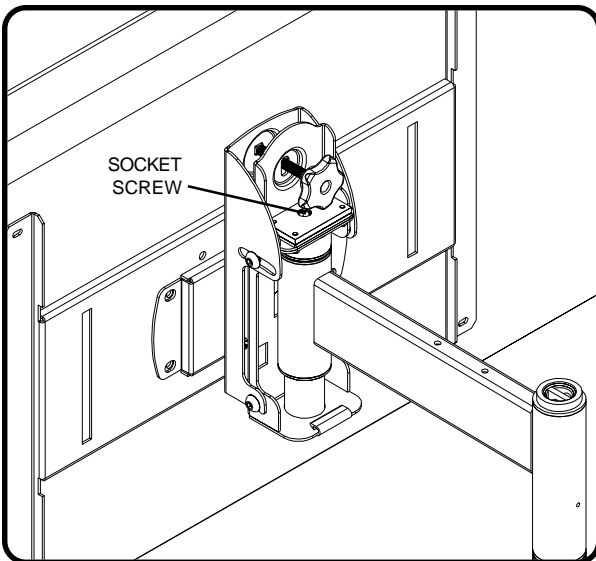

fig 8.1
- To lower screen, turn socket screw shown in figure 8.1 clockwise with 10 mm allen wrench (**V**).
- To raise screen, turn socket screw shown in figure 8.1 counterclockwise with 10 mm allen wrench (**V**).